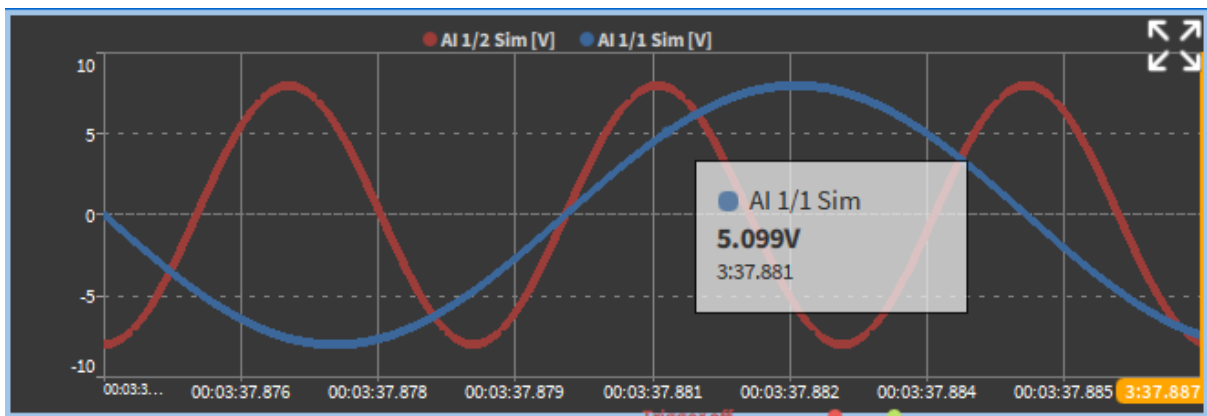

Fig. 8.10: Mouse-over information
- Statistics Data only can optionally be displayed. If *Show data labels* is selected, a window will display the nearest measurement value and time if the mouse is within the recorder (see Fig. 8.10).